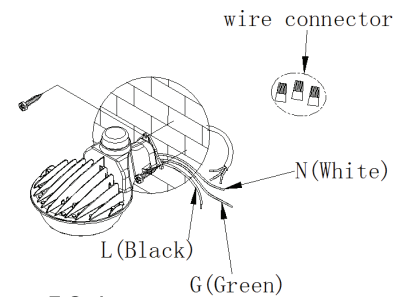
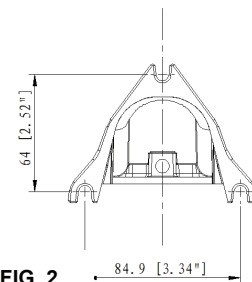

FIG. 1
FIG. 2
3. Use expansion bolts to secure the fixture on mounting surface. (See Fig. 1&Fig.2)